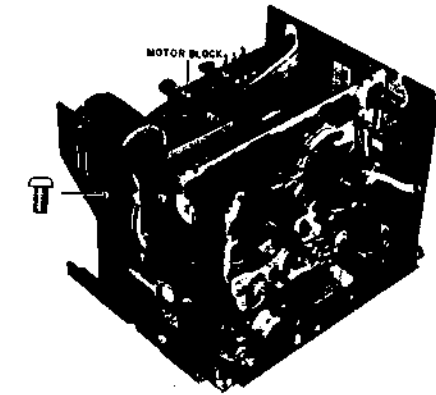

Fig. 3-6
- 2) Remove the MOTOR BLOCK securing screw from the left side panel of the mechanism block. (Refer to Fig. 3-6.)